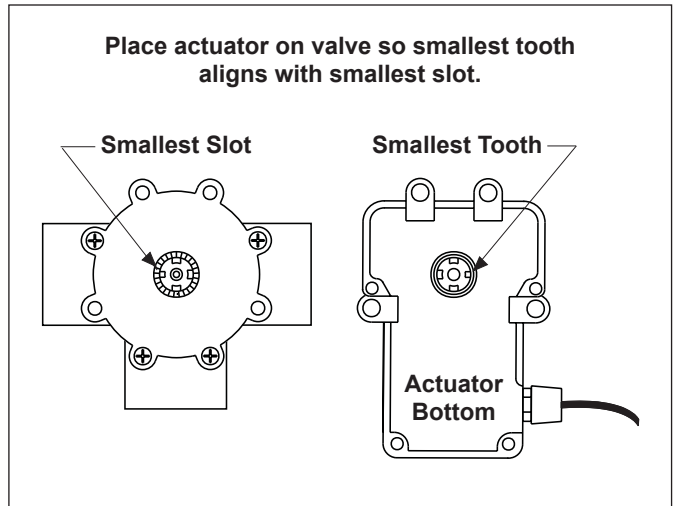

Figure 5. Actuator Mounting
3. Turn the actuator over so you can see into the clear actuator shaft. There are four (4) "teeth" on the inside of the shaft. Locate the smallest "tooth" and align this "tooth" with the smallest slot on the valve (see Figure 5).